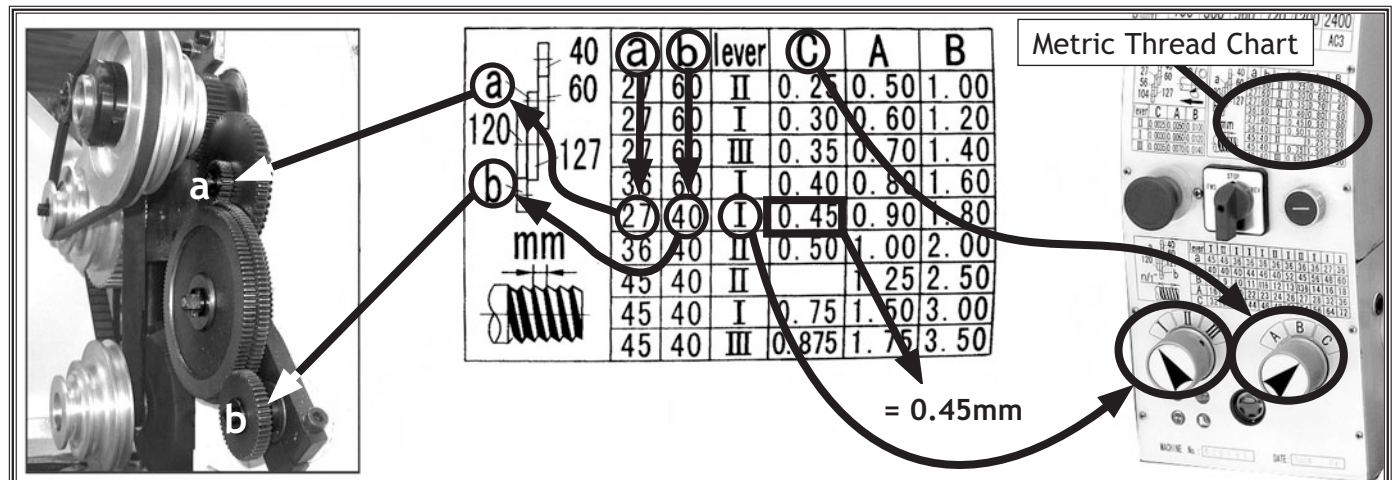

Figure 35. Metric threading setup.
Use these steps to learn how to setup your lathe for metric threading. The example in **Figure 35** shows lathe setup for cutting a metric thread pitch of 0.45mm.
2. Turn the feed dials to the numeral and letter indicated by the chart in **Figure 35**.